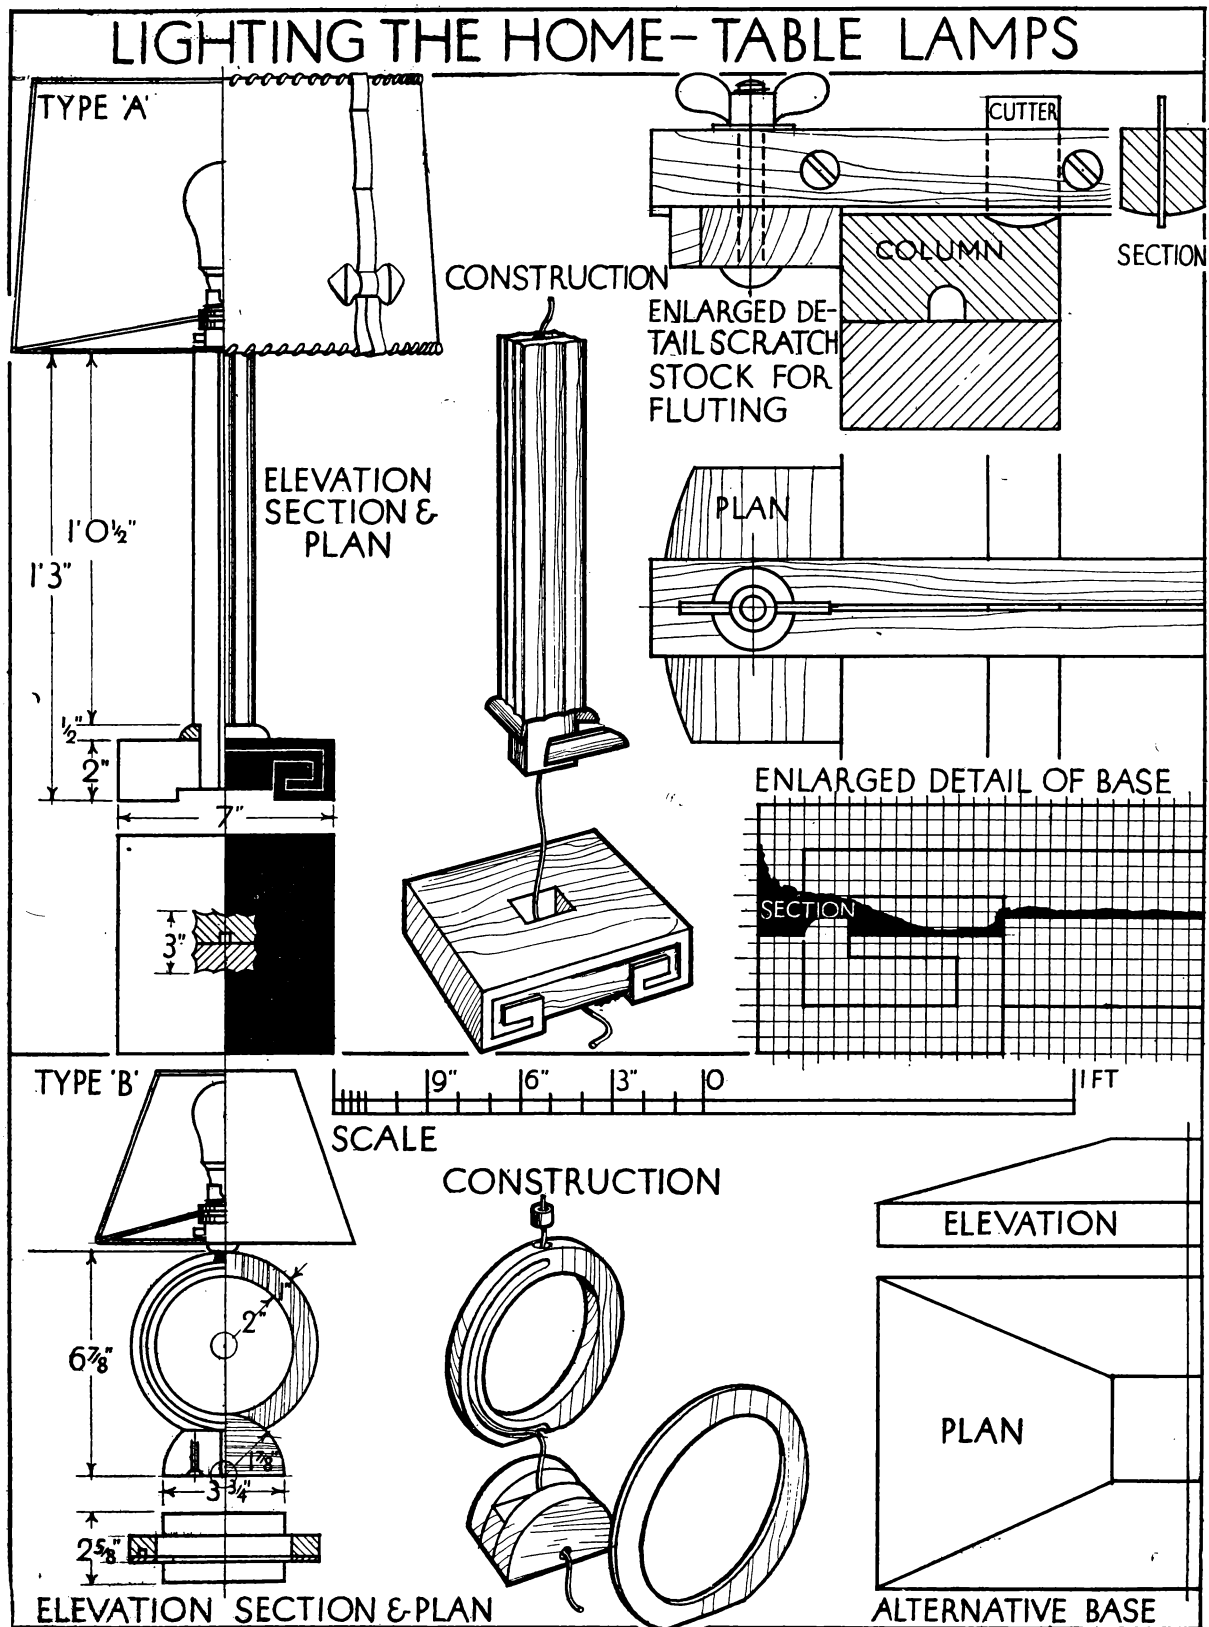
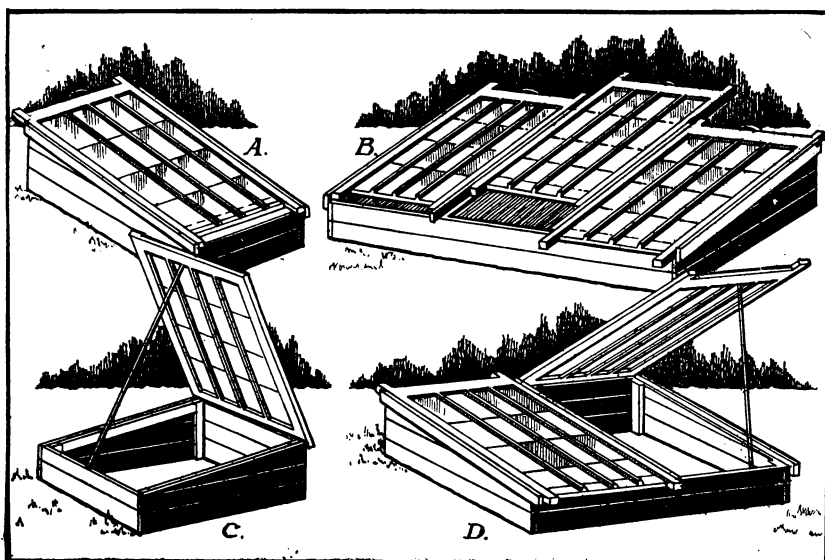

FIG. 2. SCALE ELEVATIONS WITH MAIN SIZES, AND DETAILS OF CONSTRUCTION.
FIG. 1. TWO TYPES OF FRAMES IN VARIOUS SIZES.
Types.—Fig. 1 (A) shows a single frame with a sliding light; (B) a frame with three sliding lights; (C) a single frame with hinged light; and (D) a double frame with hinged lights. Almost any kind of wood 1 in. thick may be used for the frames, but deal of course is most easily worked. Fig. 2 shows a frame for two sliding lights, and from its description it will be simple to make a single or three-light frame.
The standard size adopted for lights is mostly 4 ft. wide by 6 ft. long, but it is not necessary to always use these dimensions. In determining the size of the two-light frame (Fig. 2) the length is calculated by the width of the two lights plus 1 in. the thickness of the middle guide-piece which is fitted between them, while the width of the frame should be arranged to allow 1 in. overhang of the lights at both the front and back. Thus for two 6 ft. by 4 ft. lights the frame should be 8 ft. 1 in. long by 5 ft. 10 in. wide at the top. The depth may be from 1 ft. to 1 ft. 6 in. at the front, and 1 ft. 6 in. to 2 ft. at the back.
Reply.—You do not state the speed or horse power of the motor. As the size of the lathe you propose to make will take diameters up to 11 in. (approximately) some considerable power will be required somewhere in the region of $\frac{1}{2}$ h.p. The most satisfactory means of power transmission is an overhead motion, shown in Fig. 1. The overhead motion is supported from the roof in brackets which could be constructed similarly to the lathe standards shown in Fig. 2. It is usual with overhead motions to arrange fast and loose pulleys so that the motion of the lathe can be readily stopped, but this can only be done, conveniently, if a flat belt drive is employed. With the arrangement shown, we would suggest that a switch be fixed close at hand so that the power can be quickly cut off.
In Fig. 2 we have shown a simple form of standard construction, the method of jointing the members being illustrated in Fig. 3. The top of the braces are best secured with coachbolts which will permit of tightening should any looseness occur. At the headstock end, the standard is continuous above the bed and carries one of the bearings for the pulley core. The other part of the headstock is shown in Fig. 4, and it will